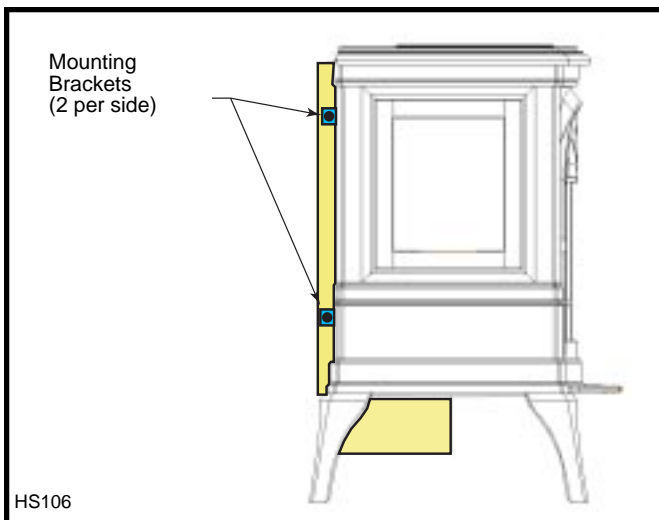

Fig. 3 Side view of the stove showing the firebox mounting brackets.
4. Locate the firebox mounting brackets on the side of the firebox. Remove the screws securing the firebox to the mounting brackets. (Fig. 3)